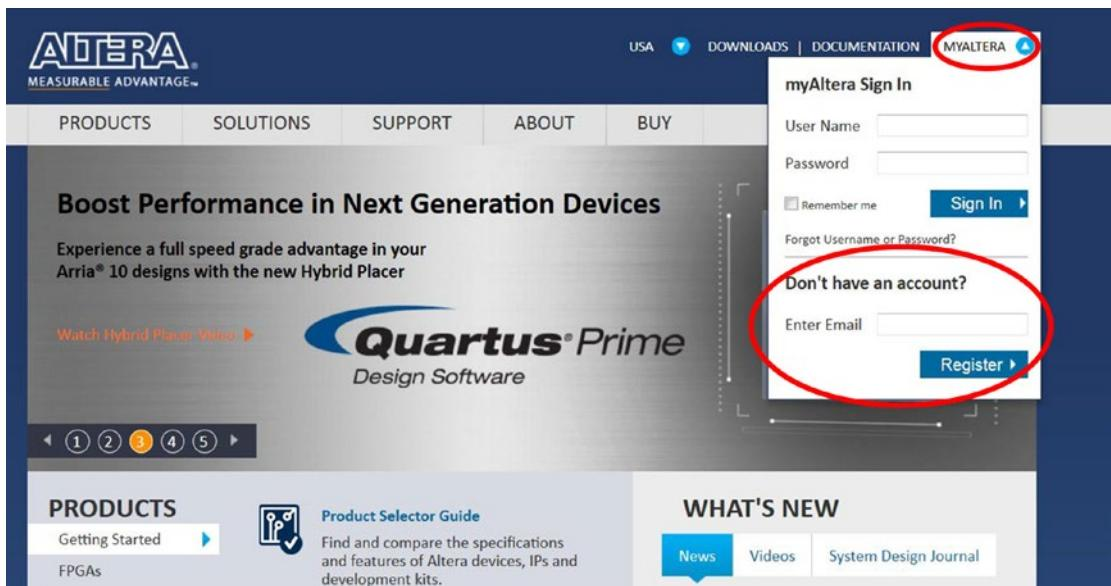

Figure 3-2. *myAltera Sign In*
1. After you arrive at the Altera web site (www.altera.com), click **MYALTERA** in the top right-hand corner. You'll be given the option of either **myAltera Sign in** or **Don't have an account?**. Since you don't have a myAltera account yet, enter your e-mail address in the **Don't have an account?** section and click **Register** (Figure 3-2).